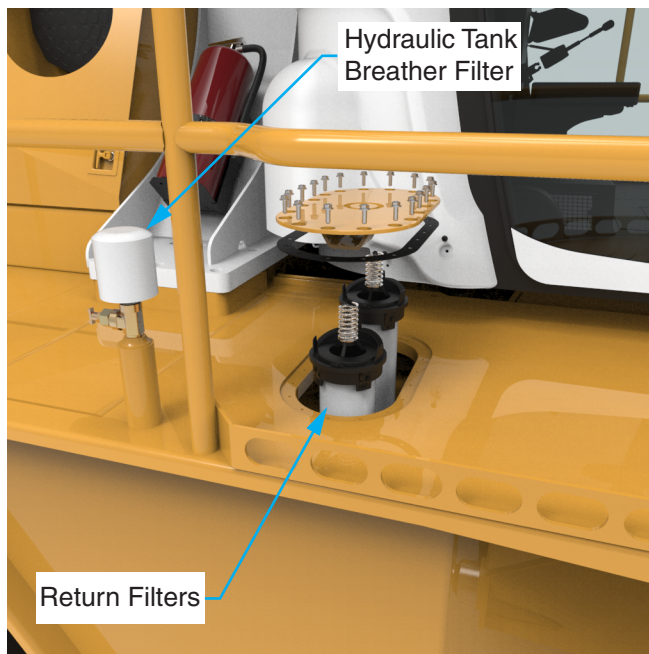

Figure 5-5-10 Return Filters and Breather Filter
The breather filter is inside the engine compartment on the right side of the machine. See Figure 5-5-10.
1. Shut down the machine and vent captive pressure by opening the petcock at the breather. See Figure 5-5-10.
The return filters are accessed from the deck on the right side of the machine. See Figure 5-5-10.
6. Discard disposable element (2).